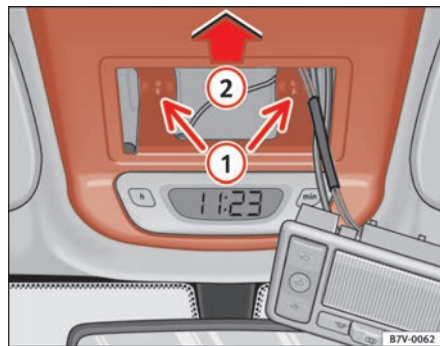

Fig. 68 Manual release
- Invert the screwdriver head and undo the two Philips screws **1** ⇒ fig. 68.
- Move the cover in the direction of the arrow **2** and remove ⇒ fig. 68.